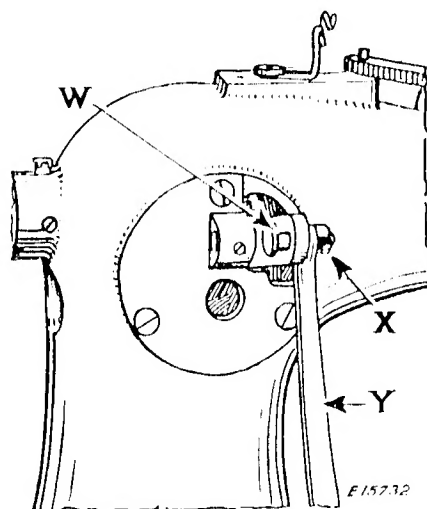

Fig.24. Adjusting Feed Rolls - Machine 7-57
To adjust, loosen nut (X, Fig. 24) and move the upper end of the feed roll connection (Y, Fig. 24) outward (away from the machine) in the slot (W) for more feeding movement of the feed rolls; or move the connection (Y) inward (toward the machine) for less feeding movement of the feed rolls, then securely tighten the nut (X).